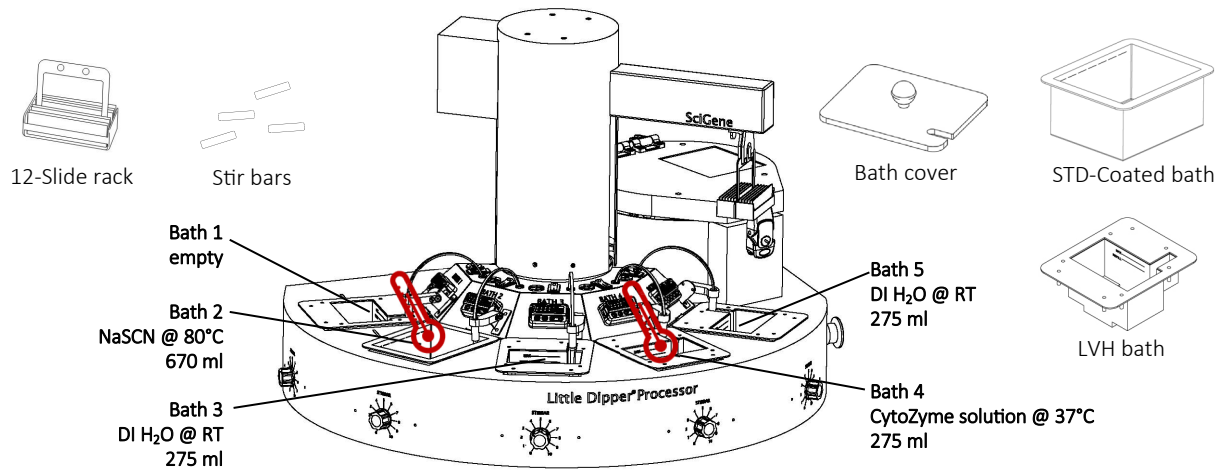

Fig 1. Little Dipper instrument configured for batches of 1 to 12 slides
2. Insert baths as shown in Figure 1. Place stir bars in Baths 2-5.